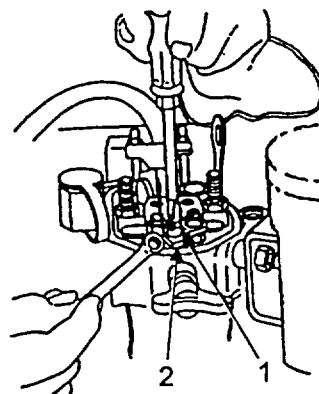

FIGURE 5-32. DECOMPRESSION ADJUSTMENT
**Adjustment of the decompression screw (Figure 5-32, Item 3) is required if the engine does not decompress when the decompression lever is in position.**
c. Using box wrench loosen nut (Figure 5-32, Item 2) and turn adjustment screw (1) clockwise until rocker touches valve stem.
d. Turn adjustment screw (1) another half turn and secure by tightening nut (2).